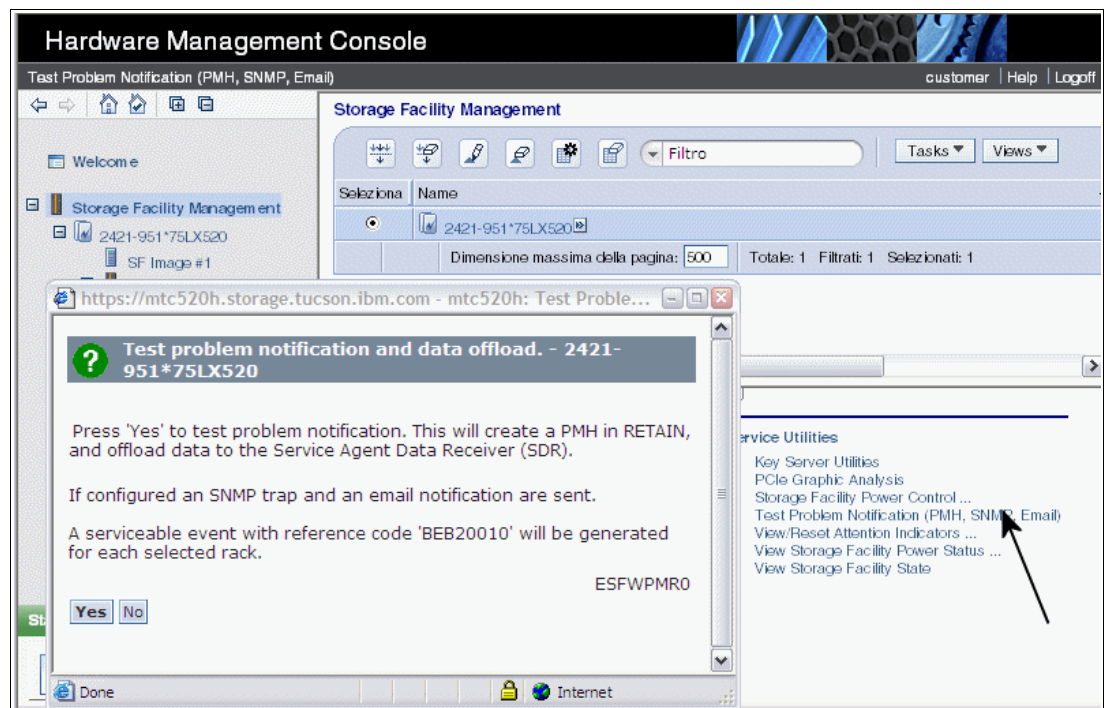

Figure 16-4 HMC Test SNMP trap
3. To verify the successful setup of your environment, create a Test Event on your DS8000 Hardware Management Console. Select **Storage Facility Management** → **Services Utilities** → **Test Problem Notification** (Figure 16-4).